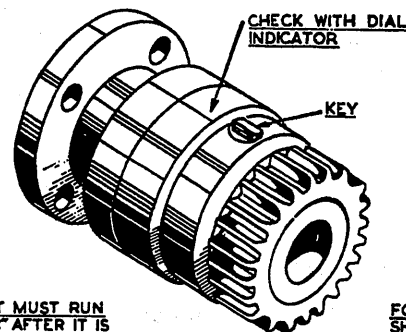

FIG 7
- (h) Check for badly worn Split Cone M6. The gear may have been allowed to slip continuously in Ahead, due to neglect to adjust the clutch when it became necessary. This would cause wear on the split cone which later adjustment might fail to correct until a new split cone had been fitted. It is possible that the corresponding recess in the drum may also have become badly worn so that the drum requires replacing or re-bushing. Clutch plates may also become worn or the surface torn, which would necessitate renewal. In order to test for a split cone which might require replacement: Adjust the Ahead Clutch so that the toggles snap over dead center by moderate pressure of the gear lever and without undue force, then the split cone should grip the sleeve of Gear M1 so that there is no end play of the Drum. Such end play can be observed when the Inspection Cover is removed and indicates that the cone is worn too much to still grip the sleeve. It must be replaced. When reassembling the gear it is important to see that the Key M2 engages the keyway in the cone and NOT the split in the cone. See Figs. 7 and 8.